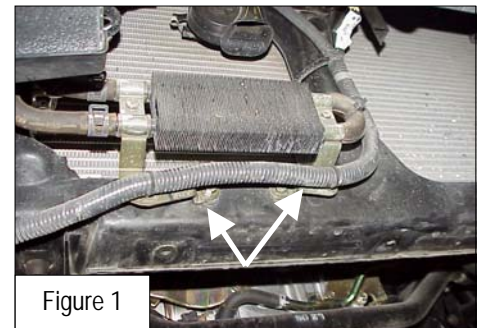

Figure 1
4. Remove the harness clipped to the p/s bracket, then the two 6MM bolts securing the OEM p/s cooler to the frame. **Figure 1**